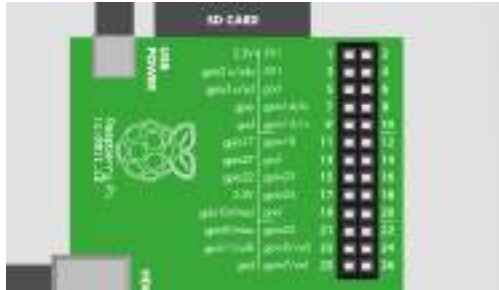

Figure C-3. *The GPIO pin header*
Raspberry Pi has a GPIO pin header for connecting external components. The GPIO pin header has 26 pins (see Figure C-3). Most pins can have multiple functions, and you can choose which one you use. In this experiment, you learn the “out” mode to turn the pin on (3.3 V) and off.
Find the correct pins on the GPIO header. The pin number one is marked with a small white box on the board. The numbering diagram (see Figure C-3) shows both the human-friendly name (GPIO 27) and the running number of the pin (13). The pins are: